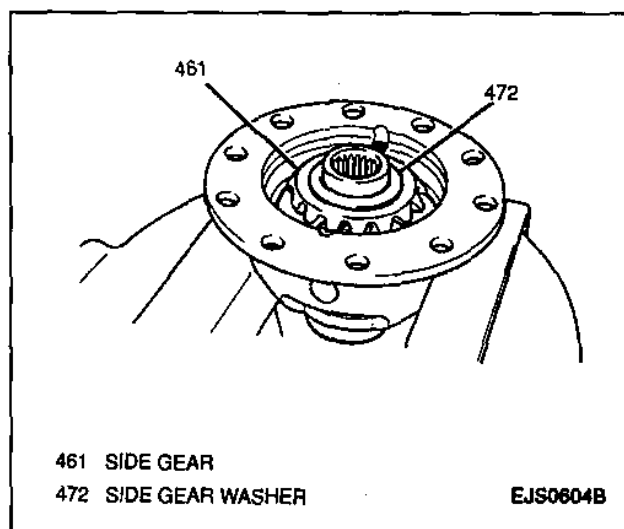

Figure 60—Left Side Gear With Washers
- 5. Left differential side gear and washers into right differential case (Figure 60).